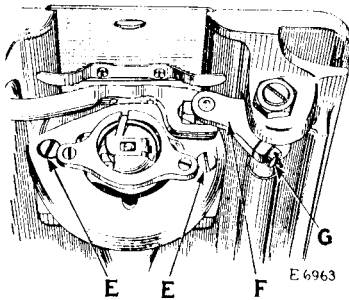

FIG. 17. ADJUSTMENT FOR RAISING AND LOWERING THE FEED DOG
Take out the two screws (E, Fig. 17) which hold the shuttle race in position and remove the shuttle race. Then remove the shuttle from the shuttle race.
The feed lifting rock shaft crank (F, Fig. 17) should be set so that when it raises the feed bar to its highest point, slightly less
than the full depth of the teeth project through the slots in the throat plate. To raise or lower the feed dog, loosen the clamping screw (G, Fig. 17) and move the feed lifting rock shaft crank (F) until the feed dog is set at the required height, then securely tighten the clamping screw (G).